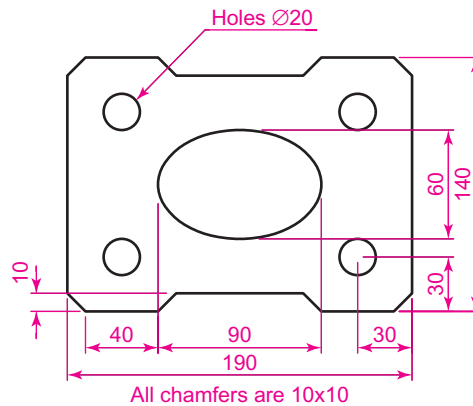

Fig. 17.19 First example – 2D outlines in 3D space
2. On this **3point UCS** construct a 2D drawing of the plate to the dimensions given in Fig. 17.19, using the **Polyline**, **Ellipse** and **Circle** tools.